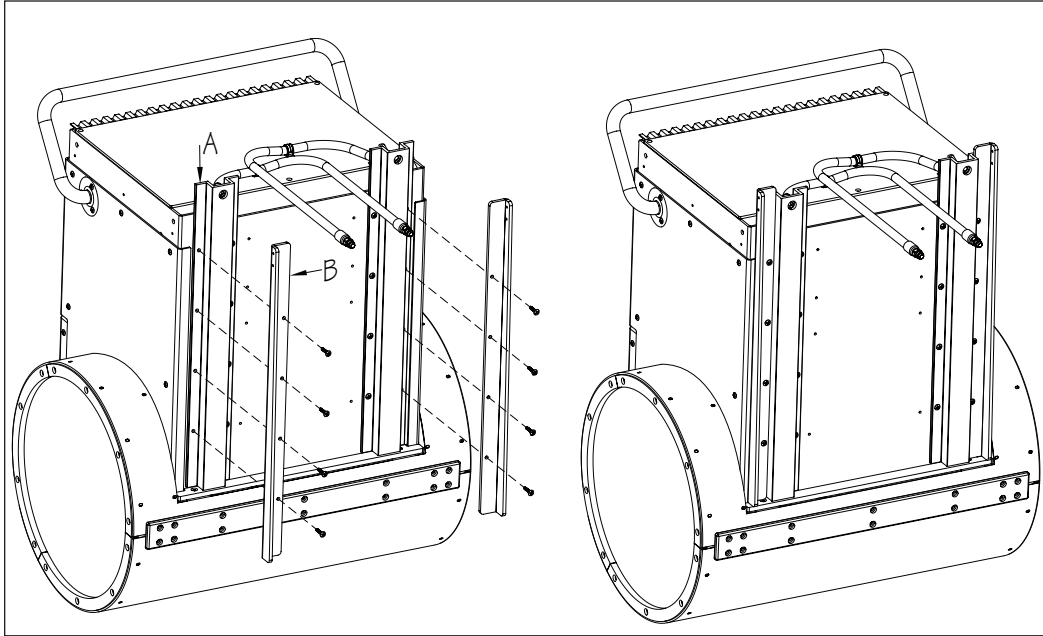

Fig. 8
1. Remove the outside screws of each Hat Section (A). Align the holes in the Standoff (B) with the corresponding holes in the Hat Section and attach using the screws that were removed (Fig. 8).